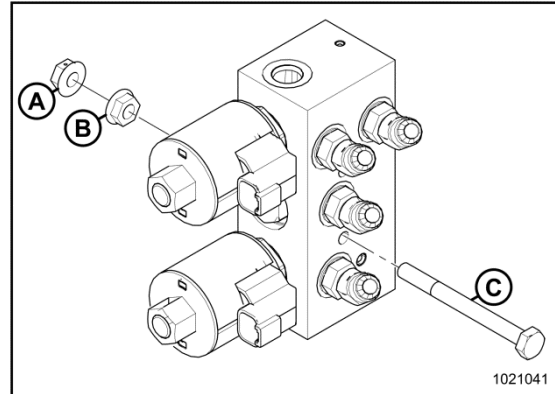

Figure 4: Mounting Selector Valve (CA20 only)
4. **CA20 only:** Bolt valve into hydraulic compartment as shown using hardware supplied with kit (Figure 4).
**NOTE:** Serrated nut (B) is installed on inside of adaptor frame and smooth faced distorted head nut (B) is installed on the outside of the adapter frame.